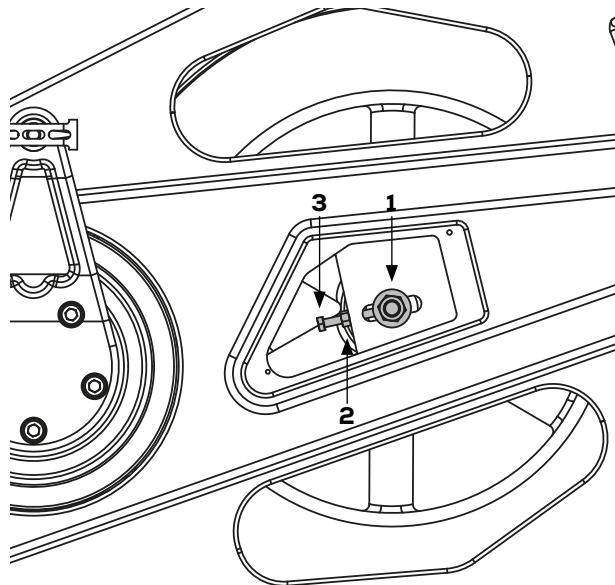

Figure 22
- 2) Loosen the bolts (1) on both sides of the cycle with a 19 mm wrench, see figure 22
- 3) Loosen the nuts (2) on the counter bolt on both sides of the cycle with a 10 mm wrench, see figure 22.
- 4) Use a wrench to tighten the counter bolts (3). On the right side, the tool should be pulled downwards and on the left side upwards to tighten with a 10 mm wrench.
- 6: Tighten the counter bolt (2) on both sides of the cycle again.
- 7: And tighten the bolt(1) again on both sides of the cycle.